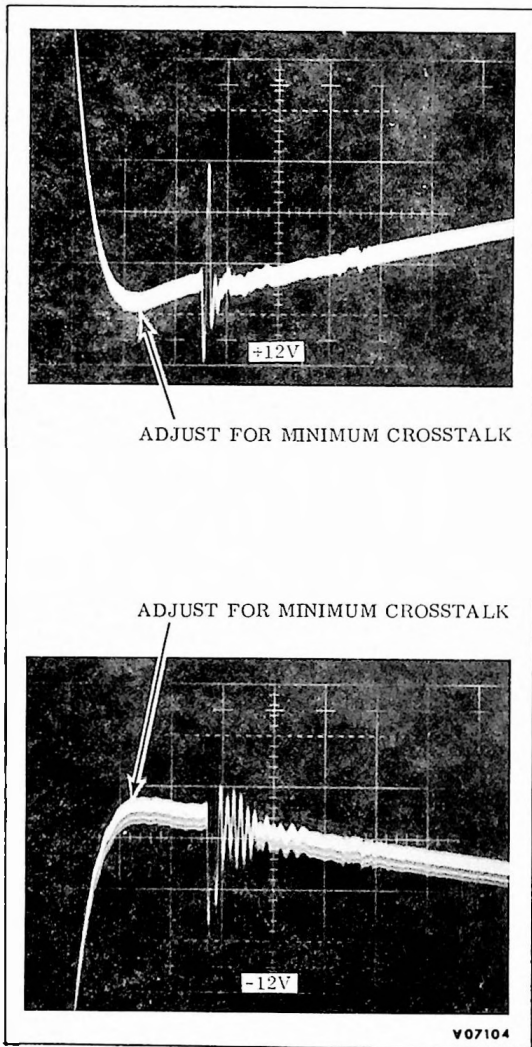

Figure 5.2-17. Crosstalk Elimination Display
- k. Adjust inductor L1 on board 6 for minimum crosstalk (see Figure 5.2-17).